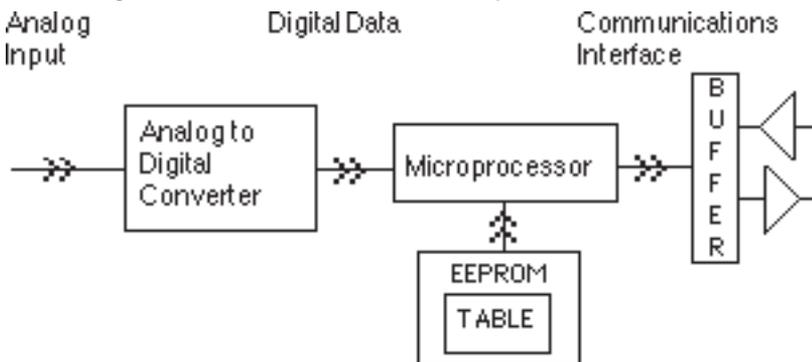

Figure 3. SCM9B-2000 Series Block Diagram
Figure 3 is a simplified block diagram of the SCM9B-2000, showing only the portions related to re-scaling. The μP reads the raw Analog-to-Digital Converter (ADC) data after every conversion. The μP takes the raw ADC data and looks it up in a table held in EEPROM. The table contains entries which map the raw ADC data to user-defined output data values scaled in engineering units. If an exact match is not found, the data is interpolated between the two closest table entries. The resulting data in engineering units is stored in a memory buffer where it may be read by the Read Data (RD) or New Data (ND) Commands.